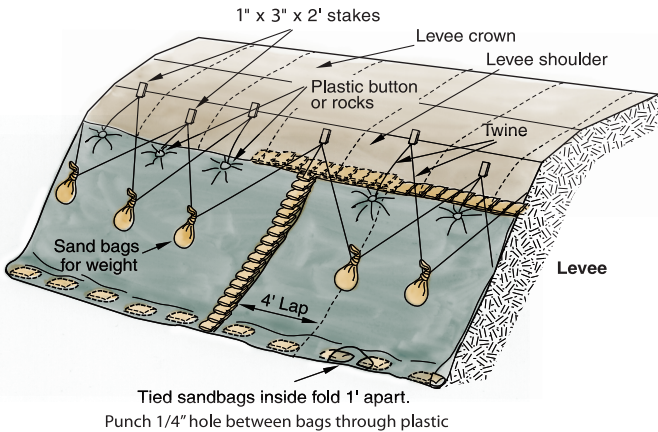

Figure 10: Wavewash Protection
- Place the stakes 4 feet apart and stagger vertically by 1foot as shown in Figure 10.
Team 4-Using a continuous piece of twine, hang tied bags from stakes in a zigzag fashion or "V" fashion as shown in Figure 10.
- To prevent slippage, make sure the sandbags forming the to seam cap are half on the plastic and half on the levee as shown in Figure 10.